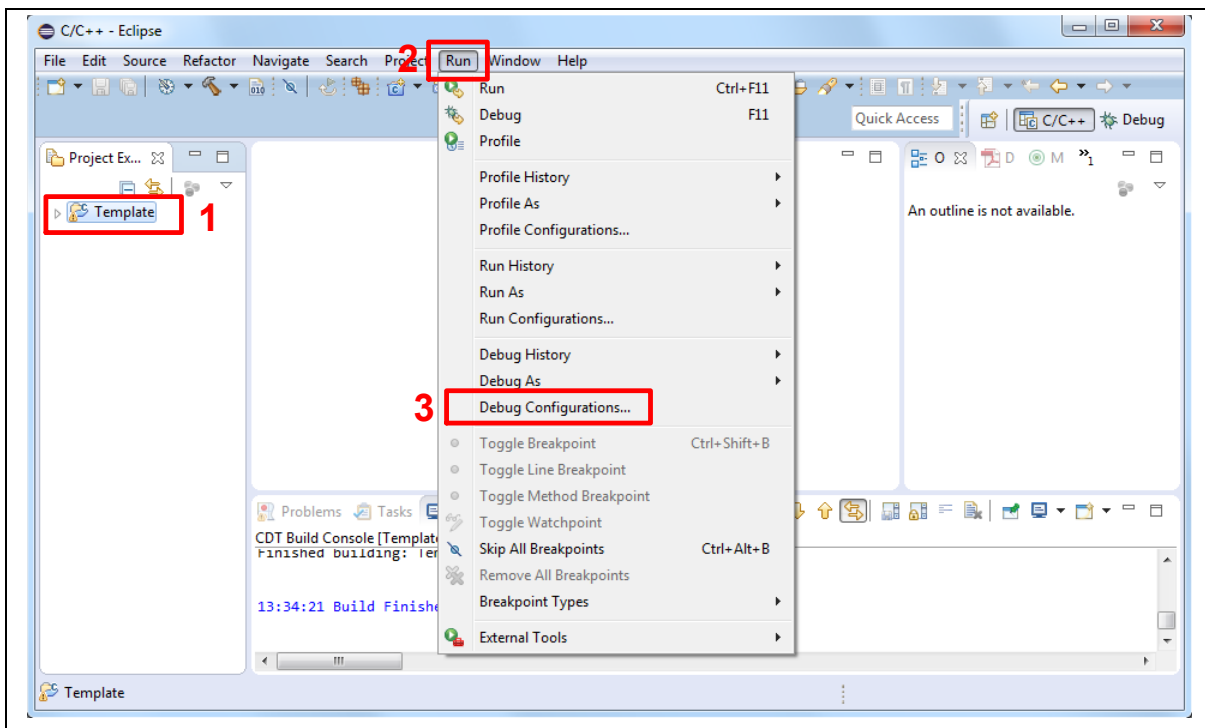
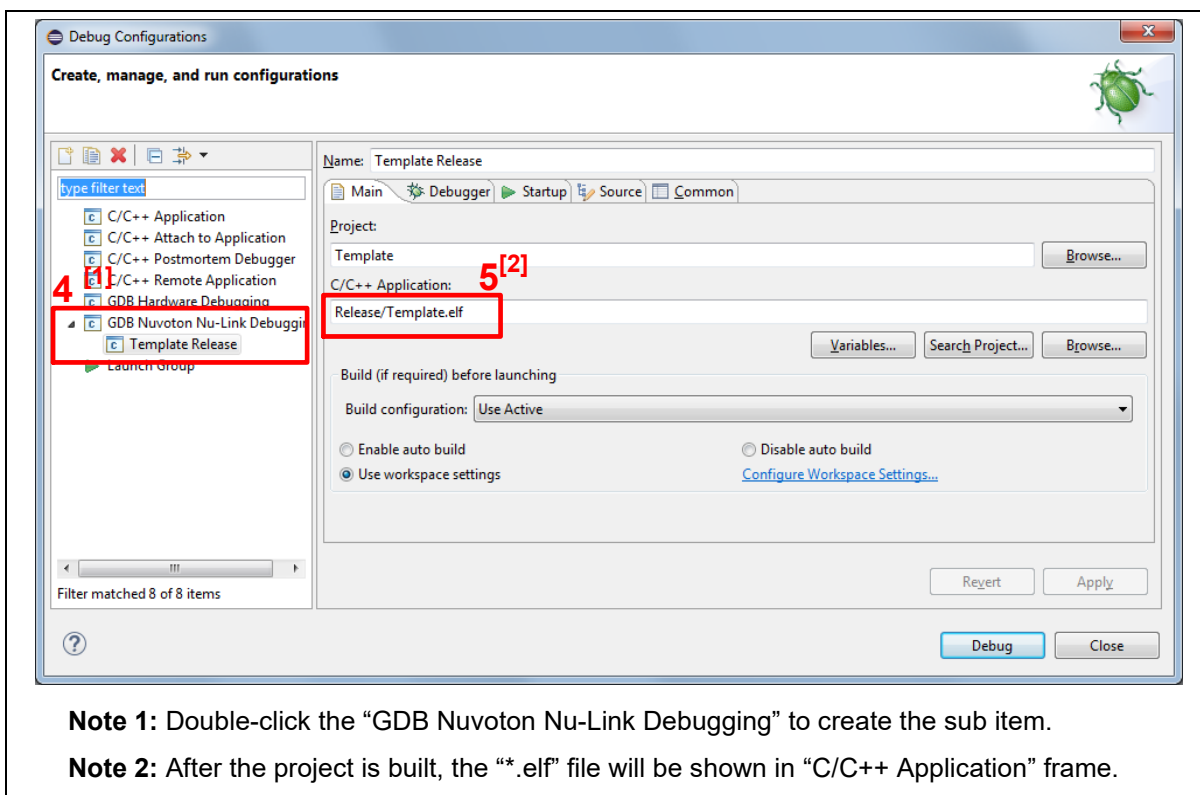

Figure 4-24 Open Debug Configuration
Figure 4-25 Main Tab Configuration
5. After the project is built, click the “Template” project and set the “Debug Configuration” as shown in Figure 4-24. Follow the settings presented in Figure 4-25, Figure 4-26 and Figure 4-27 to enter debug mode.